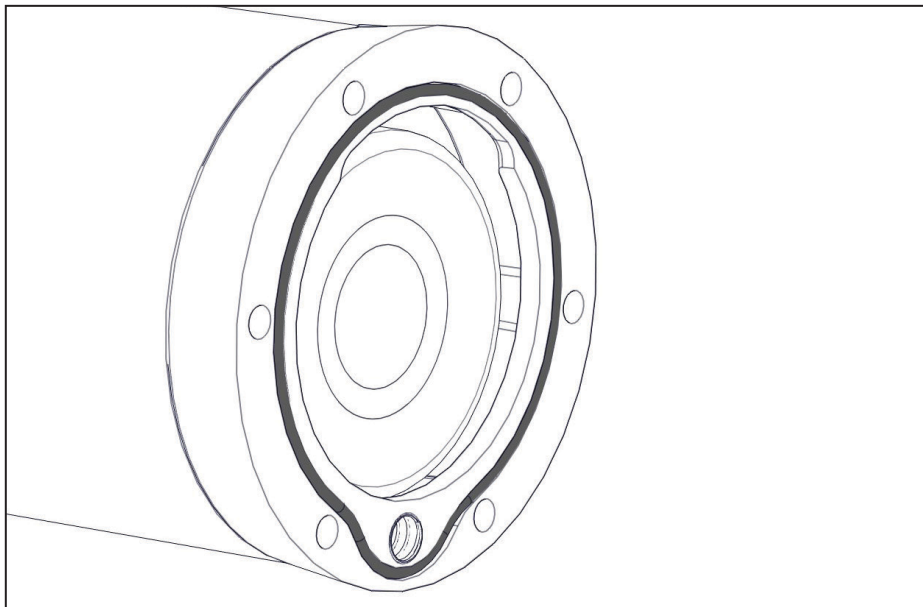

Figure 31 — Blowdown cap O-ring
- ☐ Install the blowdown cap Viton O-ring in the AOST (Figure 31).